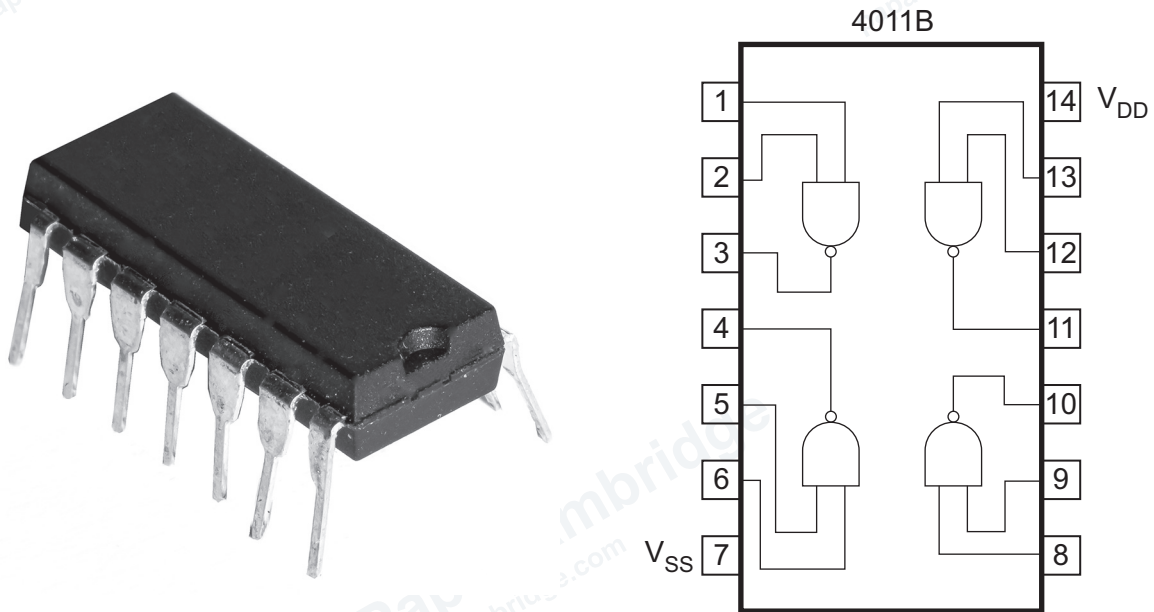

Figure 12.1
12 (a) Figure 12.1 shows a 4000 series logic integrated circuit (IC) and the pin diagram for the IC.
(i) Describe fully the type of 4000 series logic IC shown in Figure 12.1.
(ii) Give the pin number of the positive power connection to the IC in Figure 12.1.